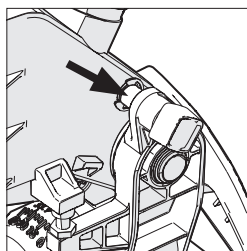

Fig. 16
- Ensure that the cutting head is in the locked down position with the latching pin fully engaged in its socket (see Fig.16).
- Ensure that the cutting head is in the locked down position with the latching pin fully engaged in its socket (**Fig. 16**).
- Pull out the head latching pin (**Fig. 16**) and allow the cutting head to rise to its upper position.